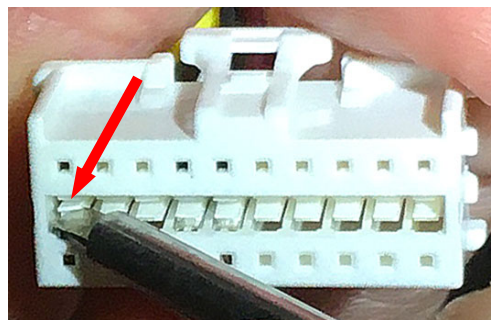

Figure 28
10. Using a small object such as a small screwdriver or paperclip, lift the tab of pins 1 and 2 to release the pins, while gently pulling on the wires (see Figure 28).